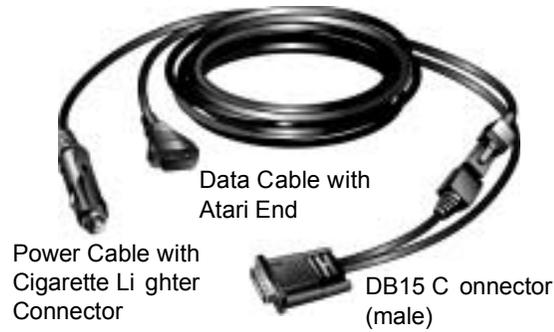

Figure 2.3 Power/Data Cable
- 4 Plug the Data Cable Atari End (Figure 2.3, page 12) into the Atari End on the Deutsch adapter or J560 PLC Cable Set.